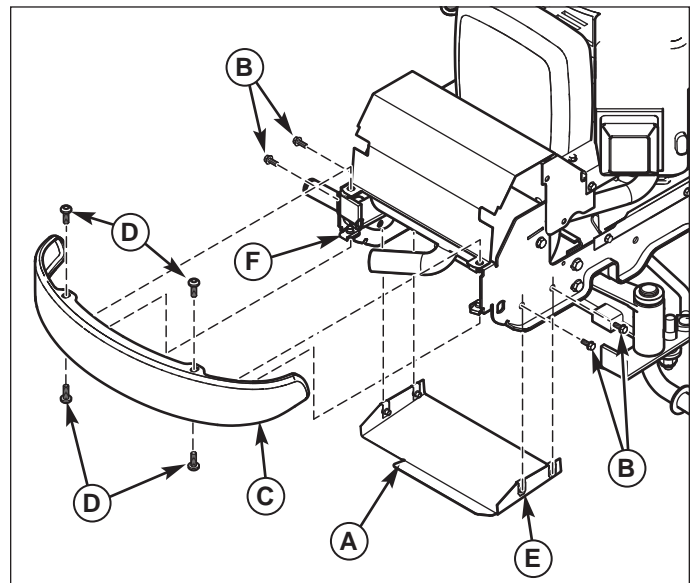

Figure 12 Bumper and Heat Shield Installation
21. Install heat shield (A, Figure 12) using four 1/4-20 Whiz Lock screws (B) as shown. Tighten screws to 10 ft. lbs (13.6 Nm).
22. Install bumper (C, Figure 12) using four 5/16-18 x 7/8 Torx screws (D) as shown. Tighten screws to 7 ft. lbs (9.75 Nm).